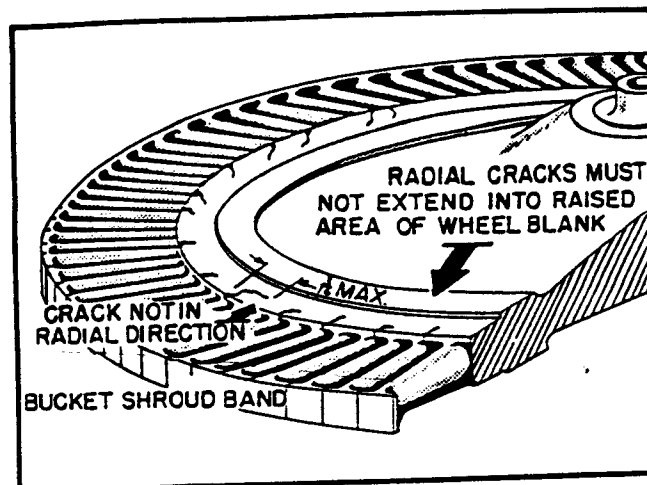

Figure 11. Radial Cracks in Bucket Wheel
18. **CRACKS IN WHEELS.**- Radial cracks in the wheel which extend into the raised area or step of the wheel blank (figure 11) are cause for removal of the turbosupercharger. Cracks which extend in other than a radial direction must not progress more than three sixteenth inch circumferentially, even though they are outside of the raised area.